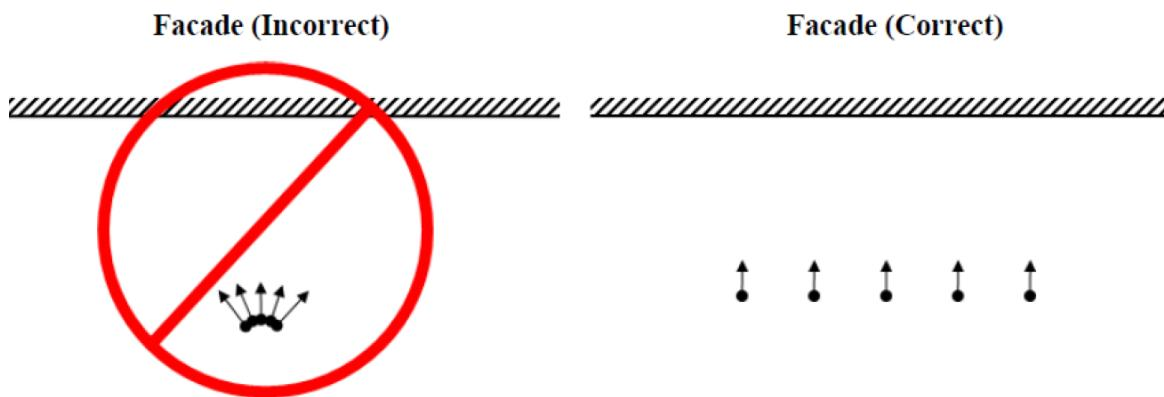

Figure 16 Optimal position pointing the camera lens parallel to the facade of the building to be recorded.
- The optimal position is pointing the camera lens parallel to the facade of the building (Figure 16).